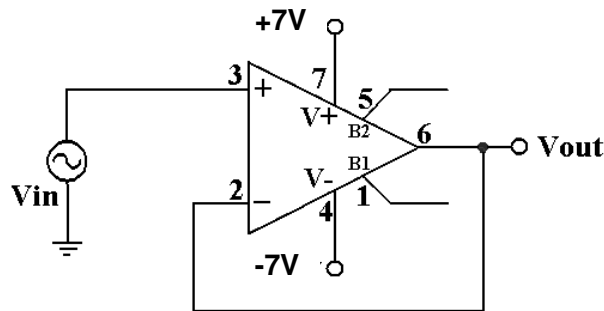

Fig. 3. Voltage Follower Configuration
- What's the voltage DC gain of the circuit shown in Fig. 3? Verify your answer using Pspice.